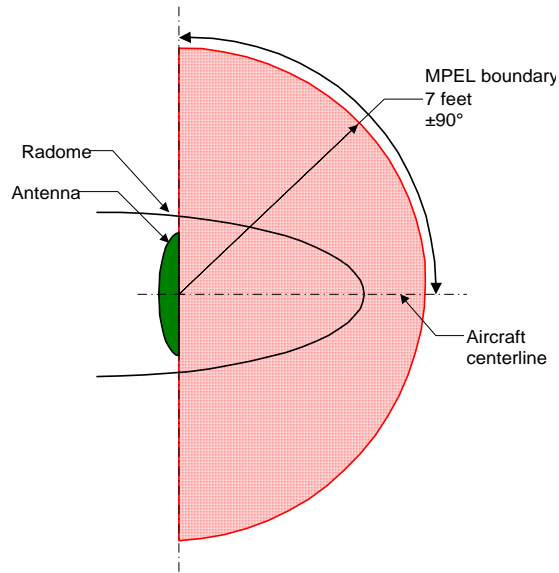

Figure 2: Maximum Permissible Exposure Level
U.S. Government standards for human exposure to microwave radiation permit a maximum level of 10 mW per square centimeter. When the radar is operating, this level may be exceeded within the area indicated in Figure 2. According to information published by the manufacturer of your antenna/receiver/transmitter (ART), strict observance of this boundary whenever your radar is operating should provide adequate protection.
Exposure of ground personnel or other aircraft occupants to microwave energy emitted at positions within the MPEL boundary depicted in Figure 2 may be hazardous. Beware that the MPEL boundary is determined with respect to the antenna, not the radome or any other aircraft structure. The MPEL boundary shown in Figure 2 applies only to units specifically approved for use with FlightMax Radar. The MPEL boundary shown in Figure 2 does not guarantee protection against ignition of flammable materials or damage to sensitive electronic equipment exposed to microwave energy from your radar.